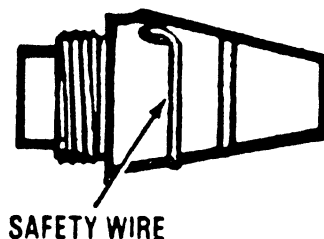

Fig 3-11. M935 fuze.
- (a) To set for delay (D), the selector slot should be rotated clockwise until it is aligned with the D mark. An M18 fuze wrench is used to change settings. The fuze has a safety wire that must be removed before firing. This fuze is an upgrade of the M524 and comes standard on the M374 series HE and M375 series WP.
- (3) The M935 fuze (fig 3-11) has two function settings: impact and delay. It is set using the bladed end of the M18 fuze wrench. It is fitted with a standard pull wire and safety pin that are removed immediately before firing.